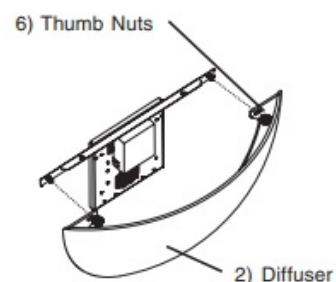

Fig 10
4. Align slots in back of Diffuser (2) with screws on bracket and secure with Thumb Nuts (6) as shown in Fig 10.